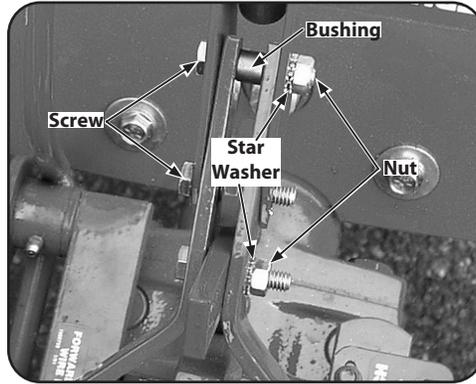

Figure 3-8
4. Align the rear-most holes of the yoke plates and the Wheels/Tines PTO Drive Lever. Use long nose pliers to hold the bushing in place while inserting the screw through the lever and yoke plates. See Figure 3-8. Install the star washer and the nut then hand tighten.